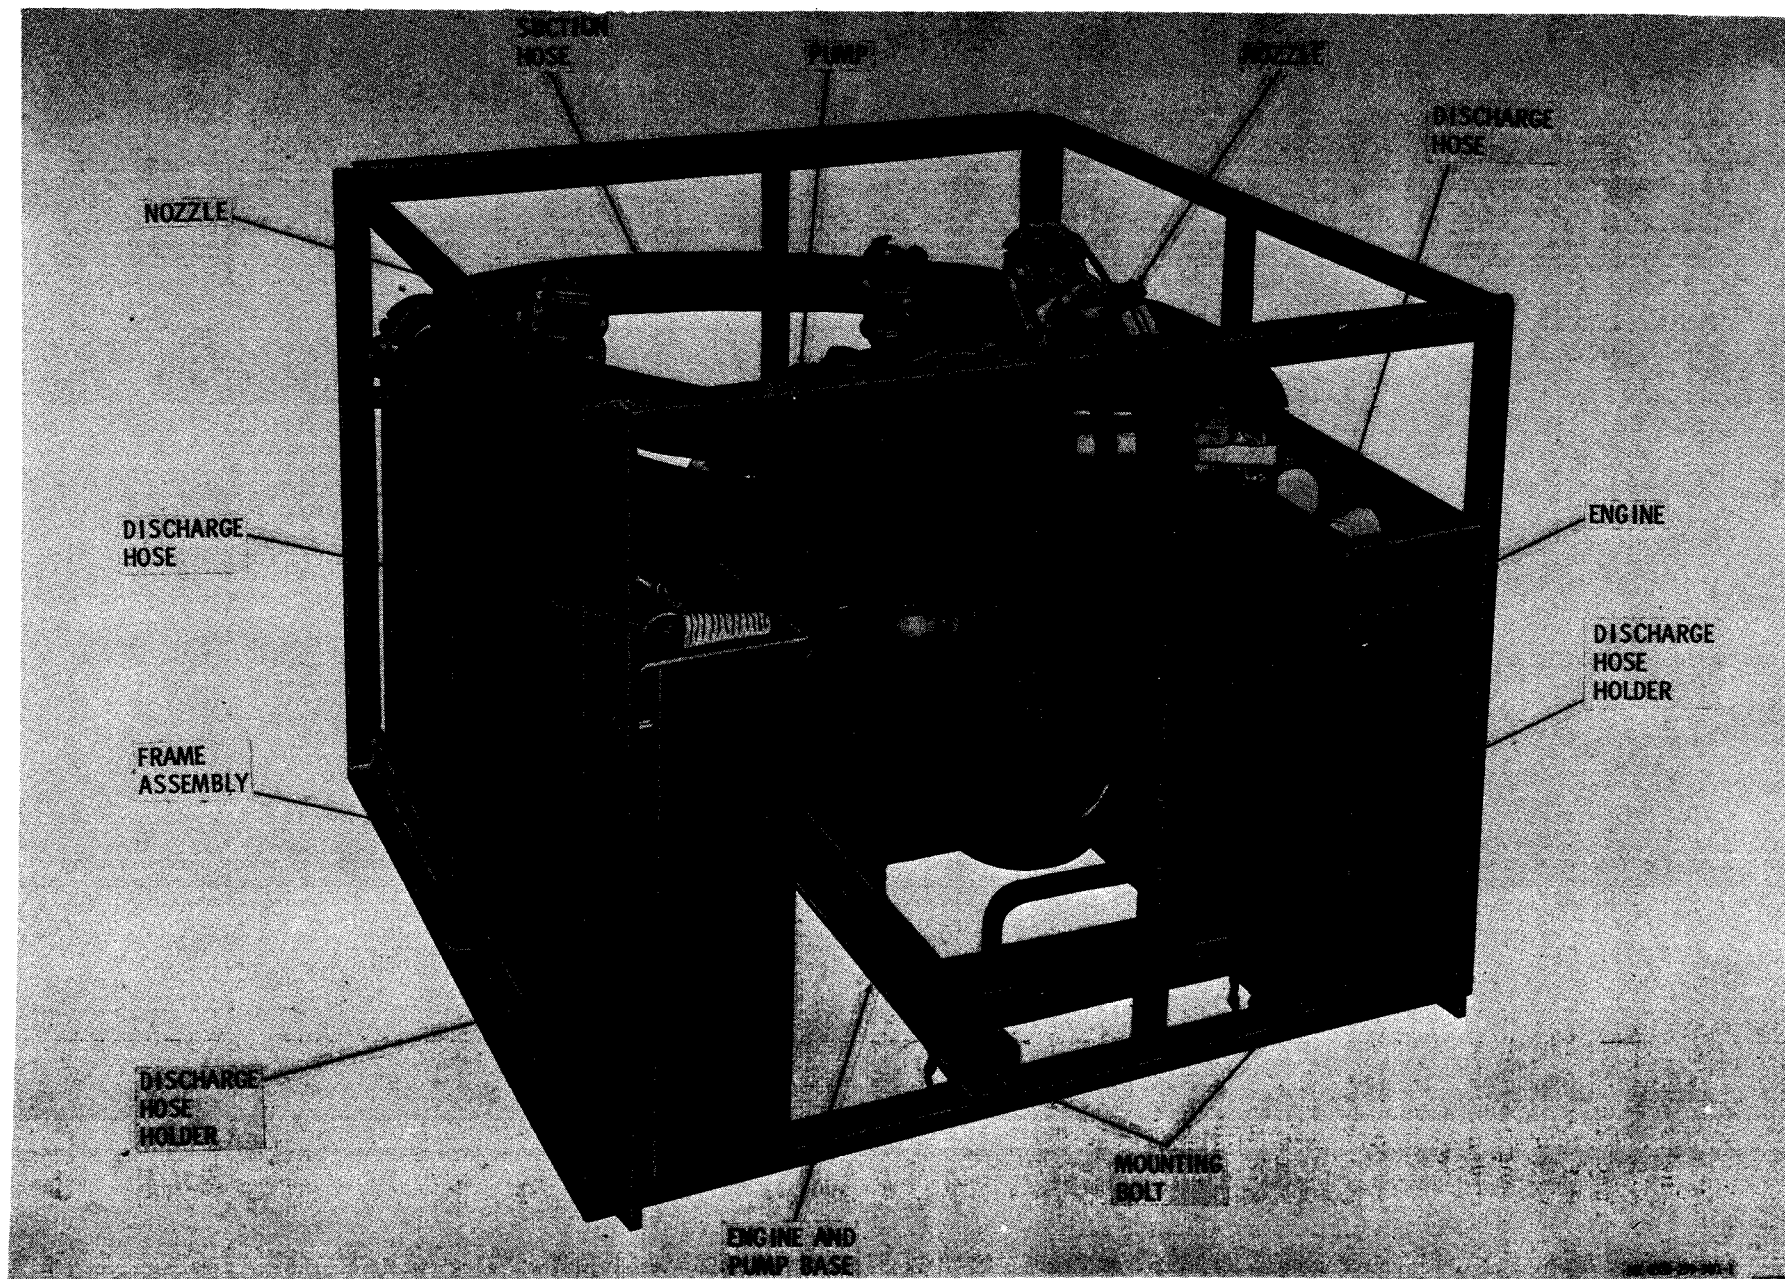

Figure 1-1. Pumping Assembly, Model US6ACG.
a. Pumping Assembly Model US6ACG (fig. 1-1) consists of an engine-driven pump mounted on a frame, a rigid-walled suction hose, two non-rigid discharge hoses which are stored in hose containers